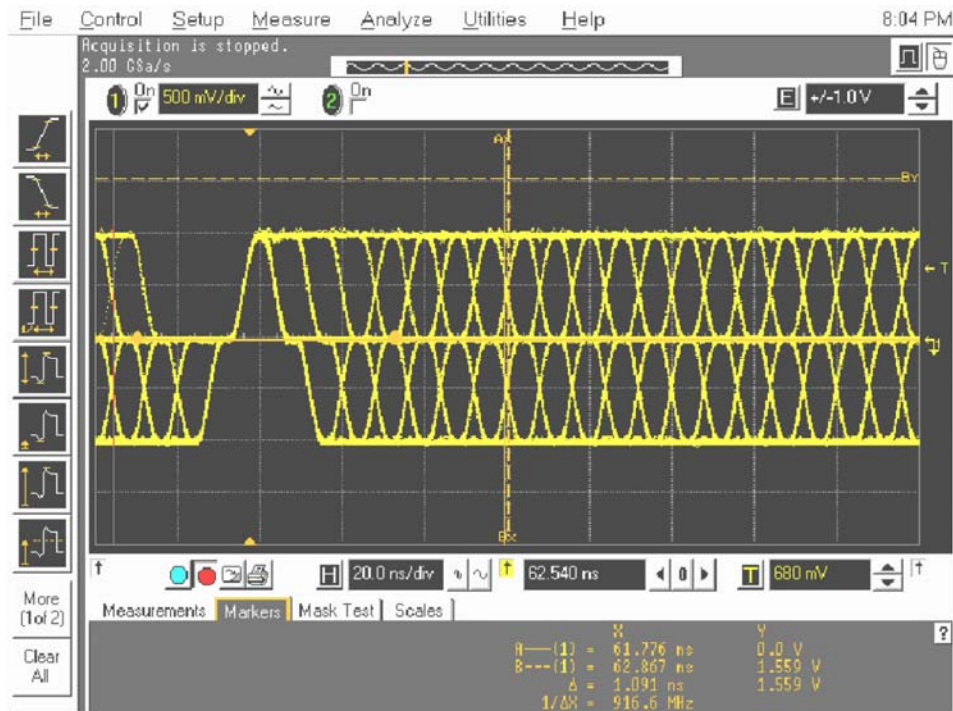

Figure 6. Normal 100BT Output Waveform
10. Measure the normal 100BT frames transmitting/receiving waveform on either TX+/- or RX+/- when the cable is connected, as shown in Figure 6.